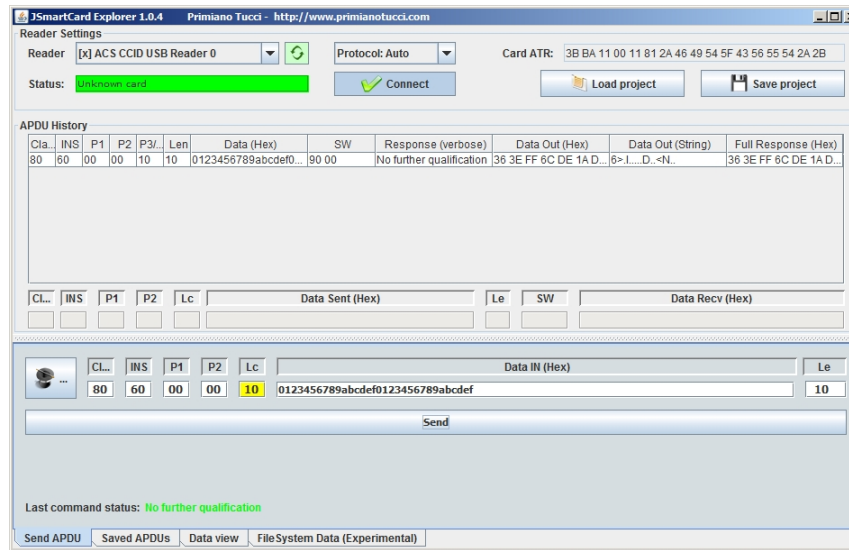

Fig. 3 Fill-in proper fields and press Send.
- Fill-in the fields *Class* (80), *INS* (60), *P1* (00), *P2* (00), *Data IN*, and *Le* (10) as shown in Figure 3 (all in HEX).
- Press *Send*. The card should run AES encryption over the entered data and return the ciphertext, as shown in Figure 3.